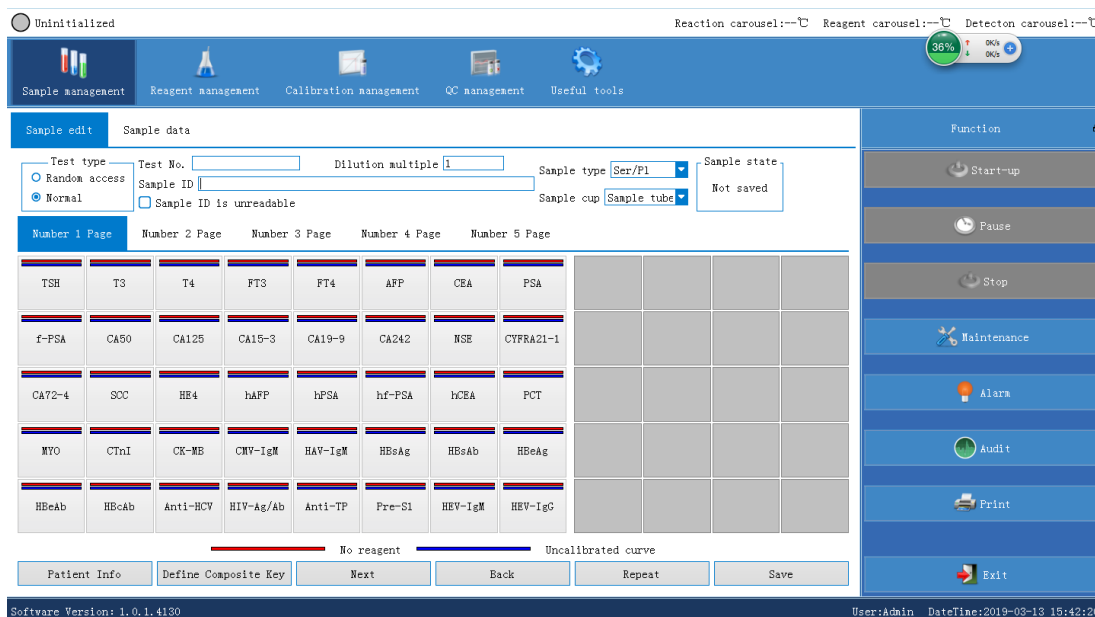

Figure 8.3.9 Sample edit
Select **Sample edit** under **Sample management**. The barcode mode interface is shown as Figure 8.3.9. Please refer to 8.3.1 **Sample management** for details.
- Click **Sample ID** input box in the interface of Figure 8.3.9
- (1) The sample ID should be unique;
- (2) If the sample barcode information cannot be scanned, check **Sample ID is not readable** and enter the rack number, position number and sample ID;
- (3) The sample type of the start-up item test selection is the same as the sample type selected by the sample editing.
- Click **Sample ID** input box on the interface of Figure 8.3.9